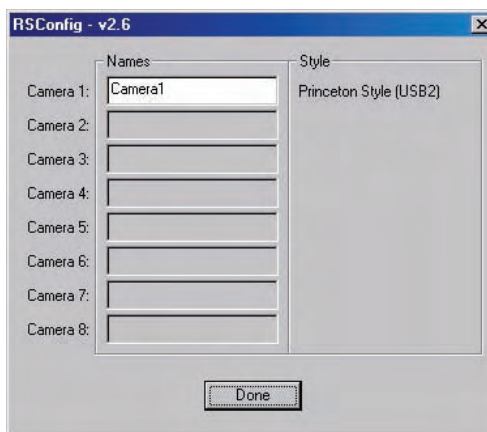

Figure 43. RSConfig dialog box
4. When the RSConfig dialog box (Figure 43) appears, you can change the camera name to one that is more specific or you can keep the default name "Camera1". When you have finished, click on the **Done** button.